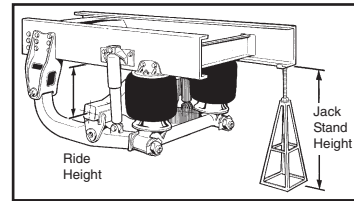
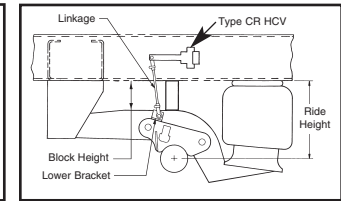
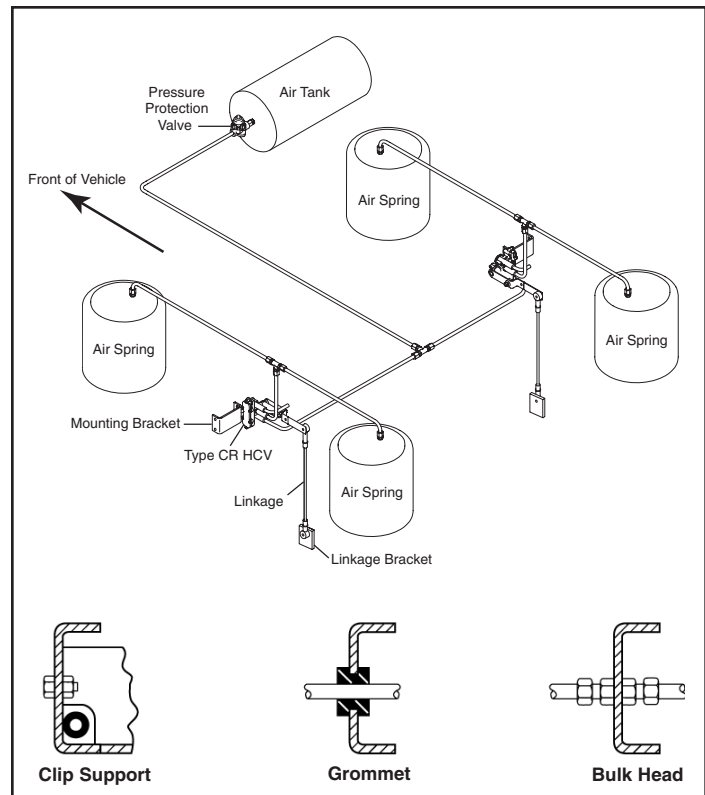
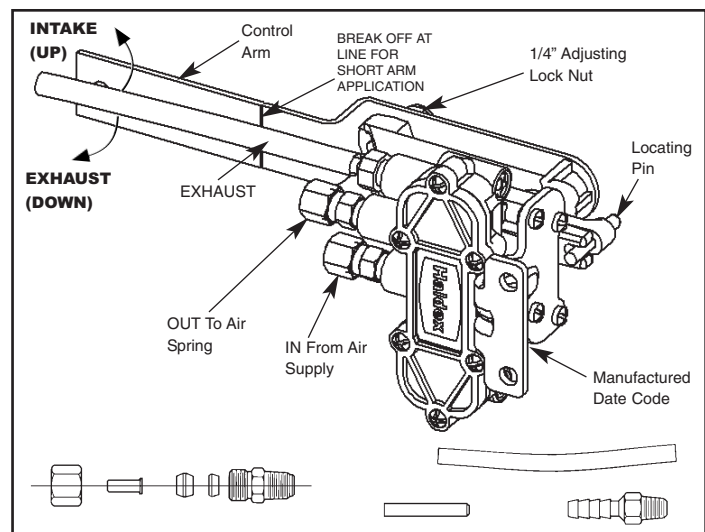

Figure 1. Jack Stand Height
Figure 2. Block Height
Figure 3. Dual CR HCV Piping Diagram
Figure 4. Features of Type CR HCV
Support the vehicle frame with adequate jack stands (Fig. 1) or spacer block (Fig. 2). Check to make sure there is enough room to work around and under the axle where the Height Control Valve (HCV) linkages are attached.
2. Locate and install Mounting Brackets (Fig. 3). Attach Height Control Valves to Mounting Brackets with 1/4" Lock Nuts and Bolts (Fig. 3). Allow for control arm clearance. (Refer to form 94100466/L31177 for installation instructions)
3. Determine the location of the Linkage Brackets (Fig. 3) so that when the Linkages are connected to the control arm of HCVs, proper ride height can be achieved. (Fig. 2). Then weld Linkage Brackets securely in position.
5. Install air lines as shown (Fig. 3). Where necessary use clip supports, grommets and bulk head fittings. **DO NOT** use Piping Compound or Teflon tape. Use a drop of oil on each brass sleeve.
6. With vehicle at proper Ride Height and the HCV's control arms secured in center position with 1/4" Adjusting Lock Nuts, install Wood Locating Pins (Fig. 4). Install Linkages to control arms and Linkage Brackets (Fig. 3) with 1/4" Lock Nuts and Shoulder Bolts. Torque to 12-17 ft-lbs.